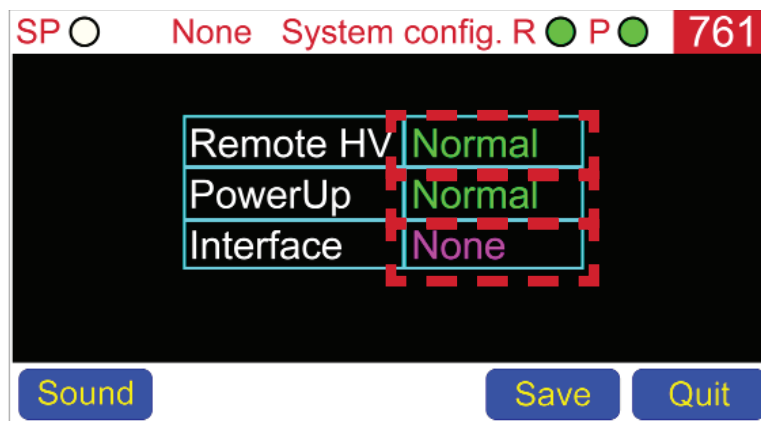

Figure 9. System Configuration display
The System Configuration display provides access to the controller-specific settings. As shown in Figure 9, all parameters which can be modified are enclosed (for illustrative purposes) in a red rectangle. These values represent "buttons" that switch and display the next available option when tapped. The Terranova® 760 series will return to the Main Display if left unattended for more than 5 minutes; any unsaved changes will be deleted. Any unsaved changes before a power loss will also be deleted.
2. Tap **System** to enter the System Configuration display (see Figure 9)
3. As shown in Figure 9, all controller-specific settings are available on screen